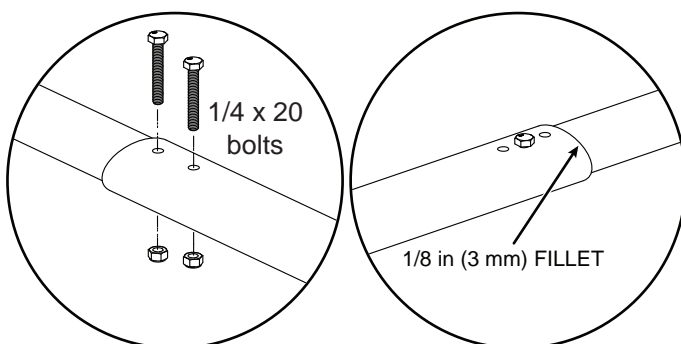

Figure 17. Set Permanent Arm Length
18. To set the arm lengths drill 17/64 inch holes through the holes on either side of the set bolts. Then put the 1/4 x 20 bolts through the holes and secure them with the lock nuts (Figure 17).
19. Alternatively, apply a 1/8 inch (3 mm) fillet weld to each seam to permanently set the length of the arm assembly (Figure 17).
The factory default positions of the limit sensor bracket screws are 1 and 5 for a LEFT-HAND installation (Figure 17).